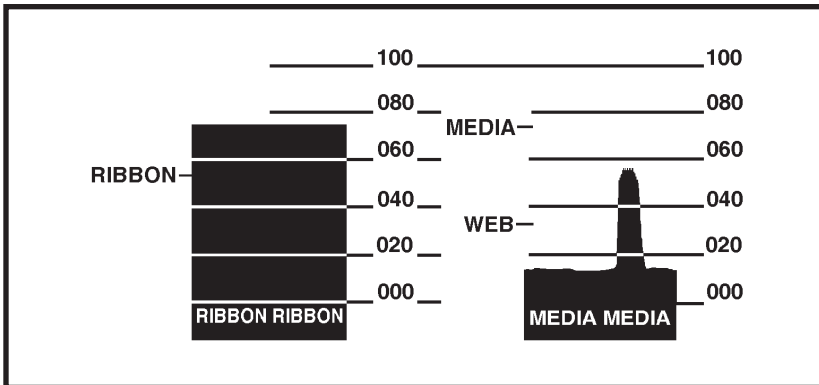

Figure 7.4 Media Sensor Profile Sample Printout
11. Press the MODE key to print a Media and Sensor Profile and save the new values (see Figure 7.4.).